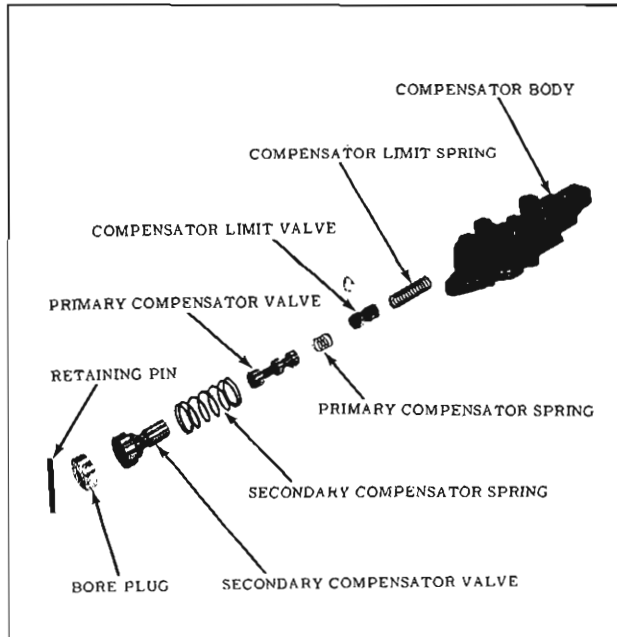

Fig. 6-94 Snap Ring Location
10. Install large reverse cone snap ring into snap ring groove in case. (Fig. 6-94)